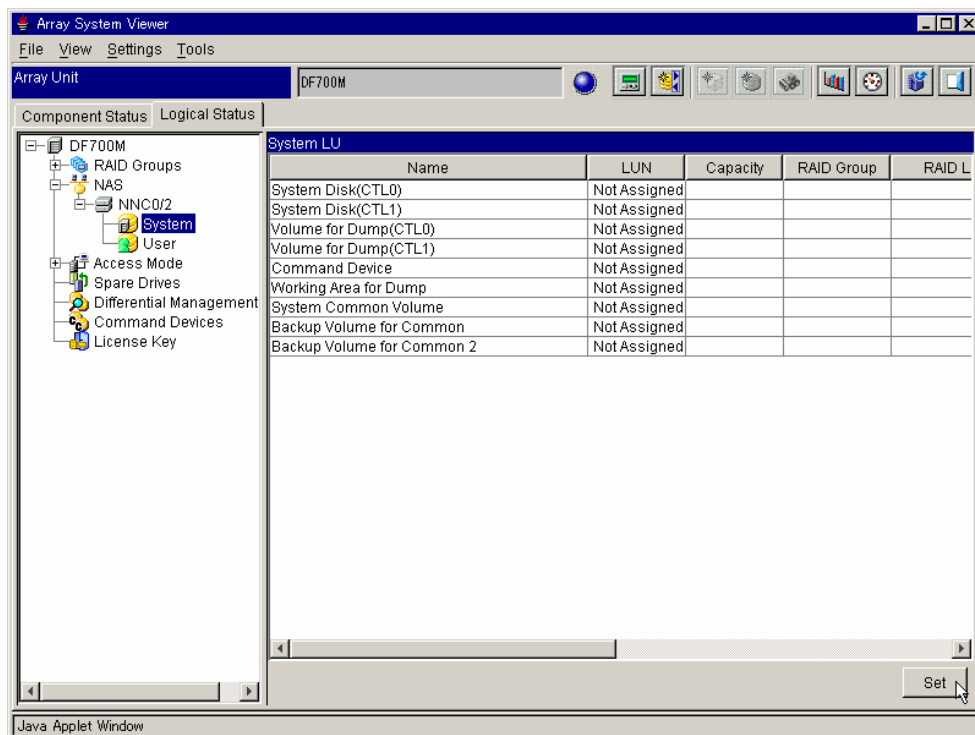

Figure 10.8 Array System Viewer - NNC0/2
2. Click the NAS plus sign. See Figure 10.8.